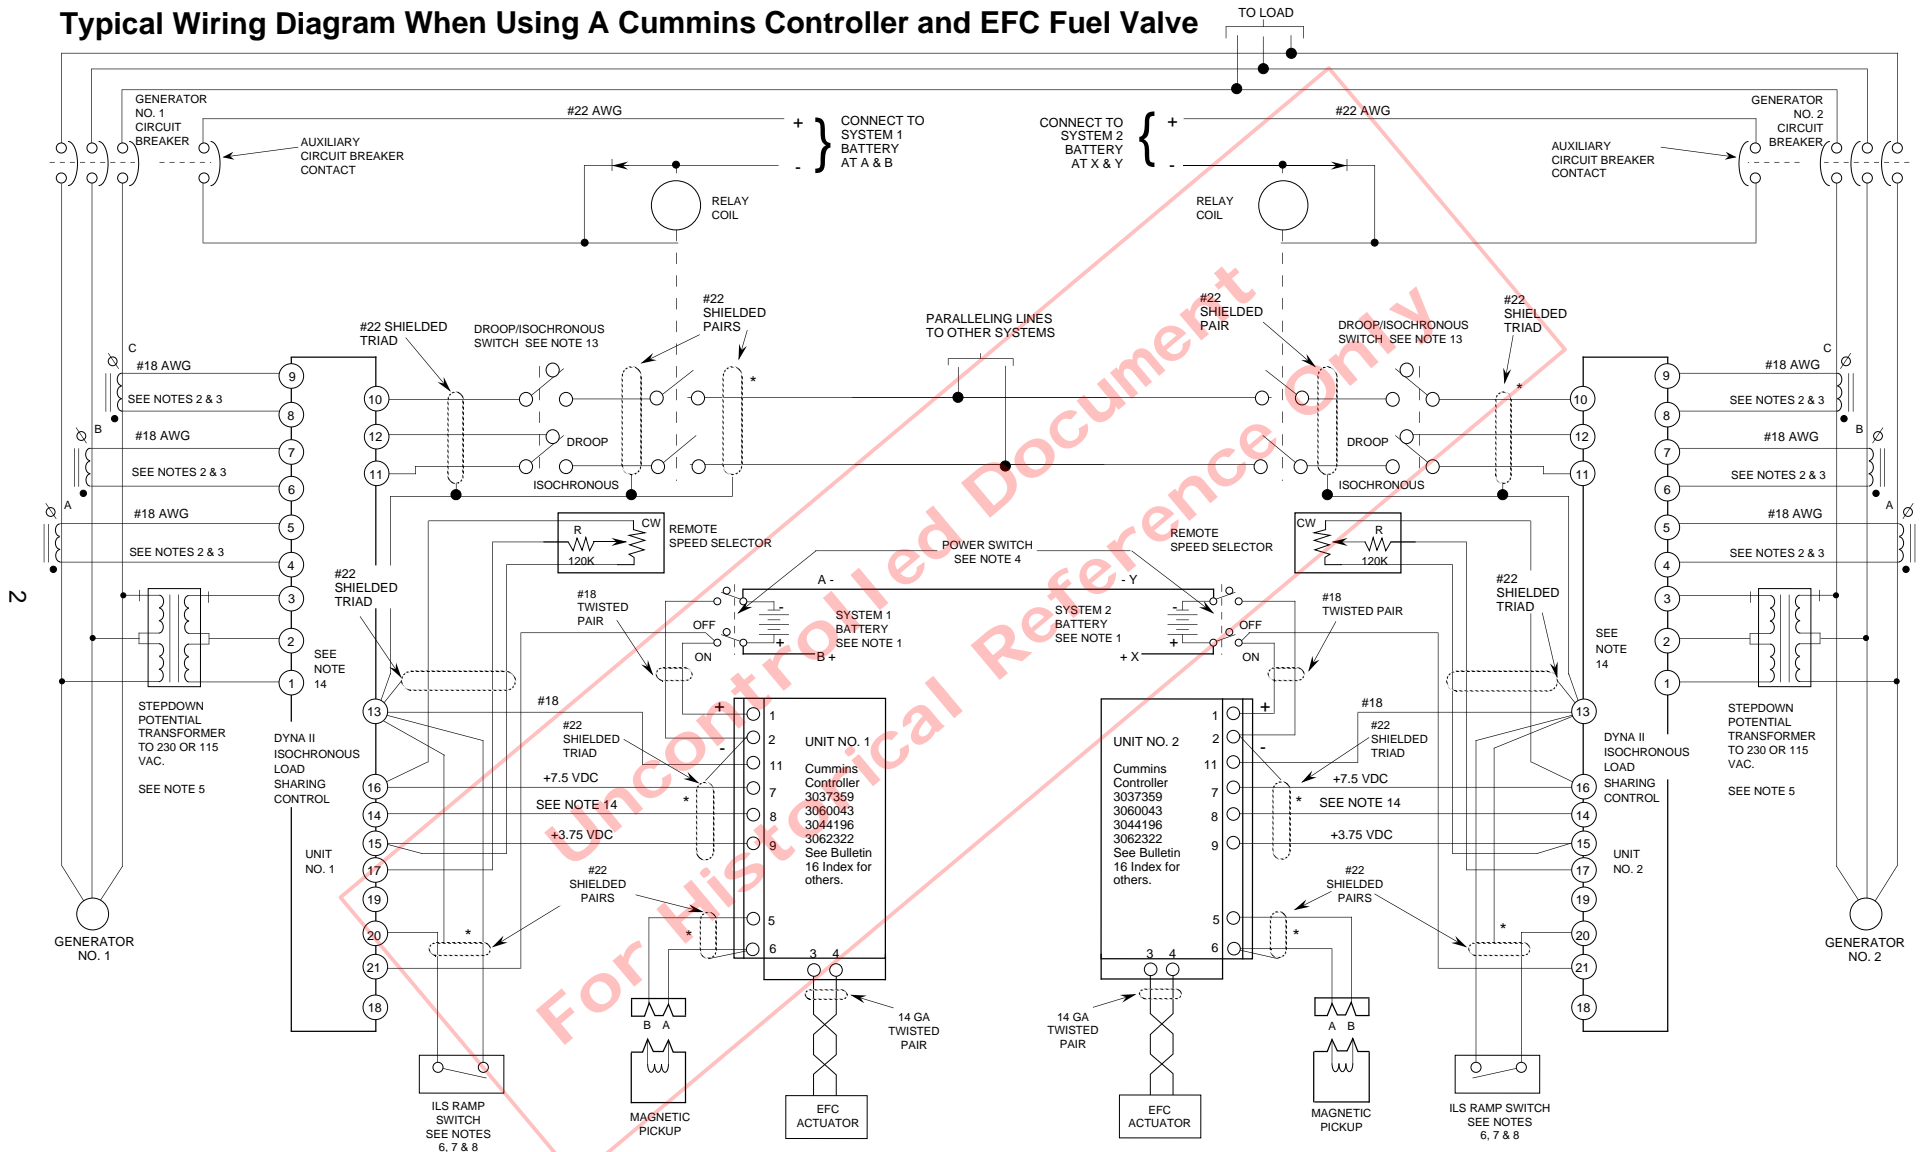

Figure 1. Typical Electrical Schematic
Figure 1 illustrates the wiring of two engine generator sets having Cummins governors and DYNA II Isochronous Load Sharing controls. Additional engine generator sets can be paralleled by wiring them at the point designated, **PARALLELING LINES TO OTHER SYSTEMS**.
14. Shielded wires are to be terminated on one end, as shown in wiring diagram, Figure 1.